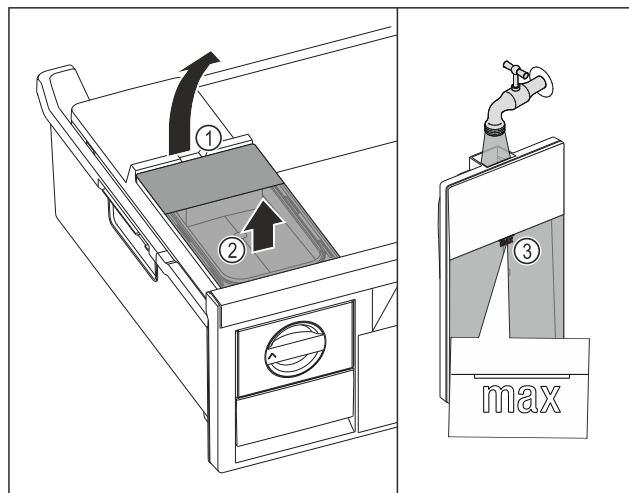

Fig. 71
- Lift the water tank at the recess *Fig. 71 (1).*
- Remove the water tank by lifting it upwards. *Fig. 71 (2)*
- Fill the water tank with drinking water up to the mark *Fig. 71 (3).*